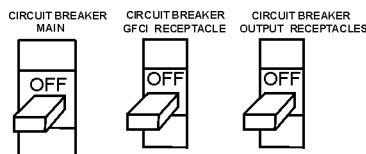

Figure 38. Main, GFCI and Load Circuit Breakers
1. Be sure to disconnect the electrical load and switch the **main**, **load** and **G.F.C.I.** circuit breakers (Figure 38) to the "OFF" position prior to starting the engine.